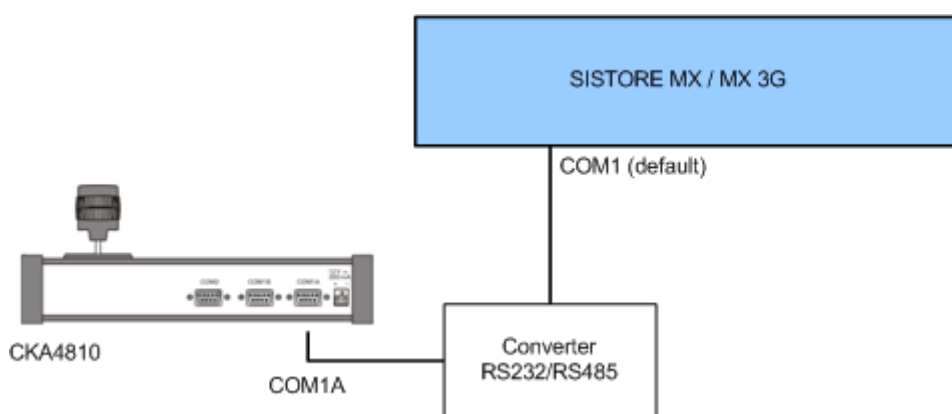

Fig. 5 SISTORE unit – CKA4810 system overview
1. Connect the converter between the control panel CKA4810 and the SISTORE unit (see Fig. 5). See Section 3 Details for ordering.